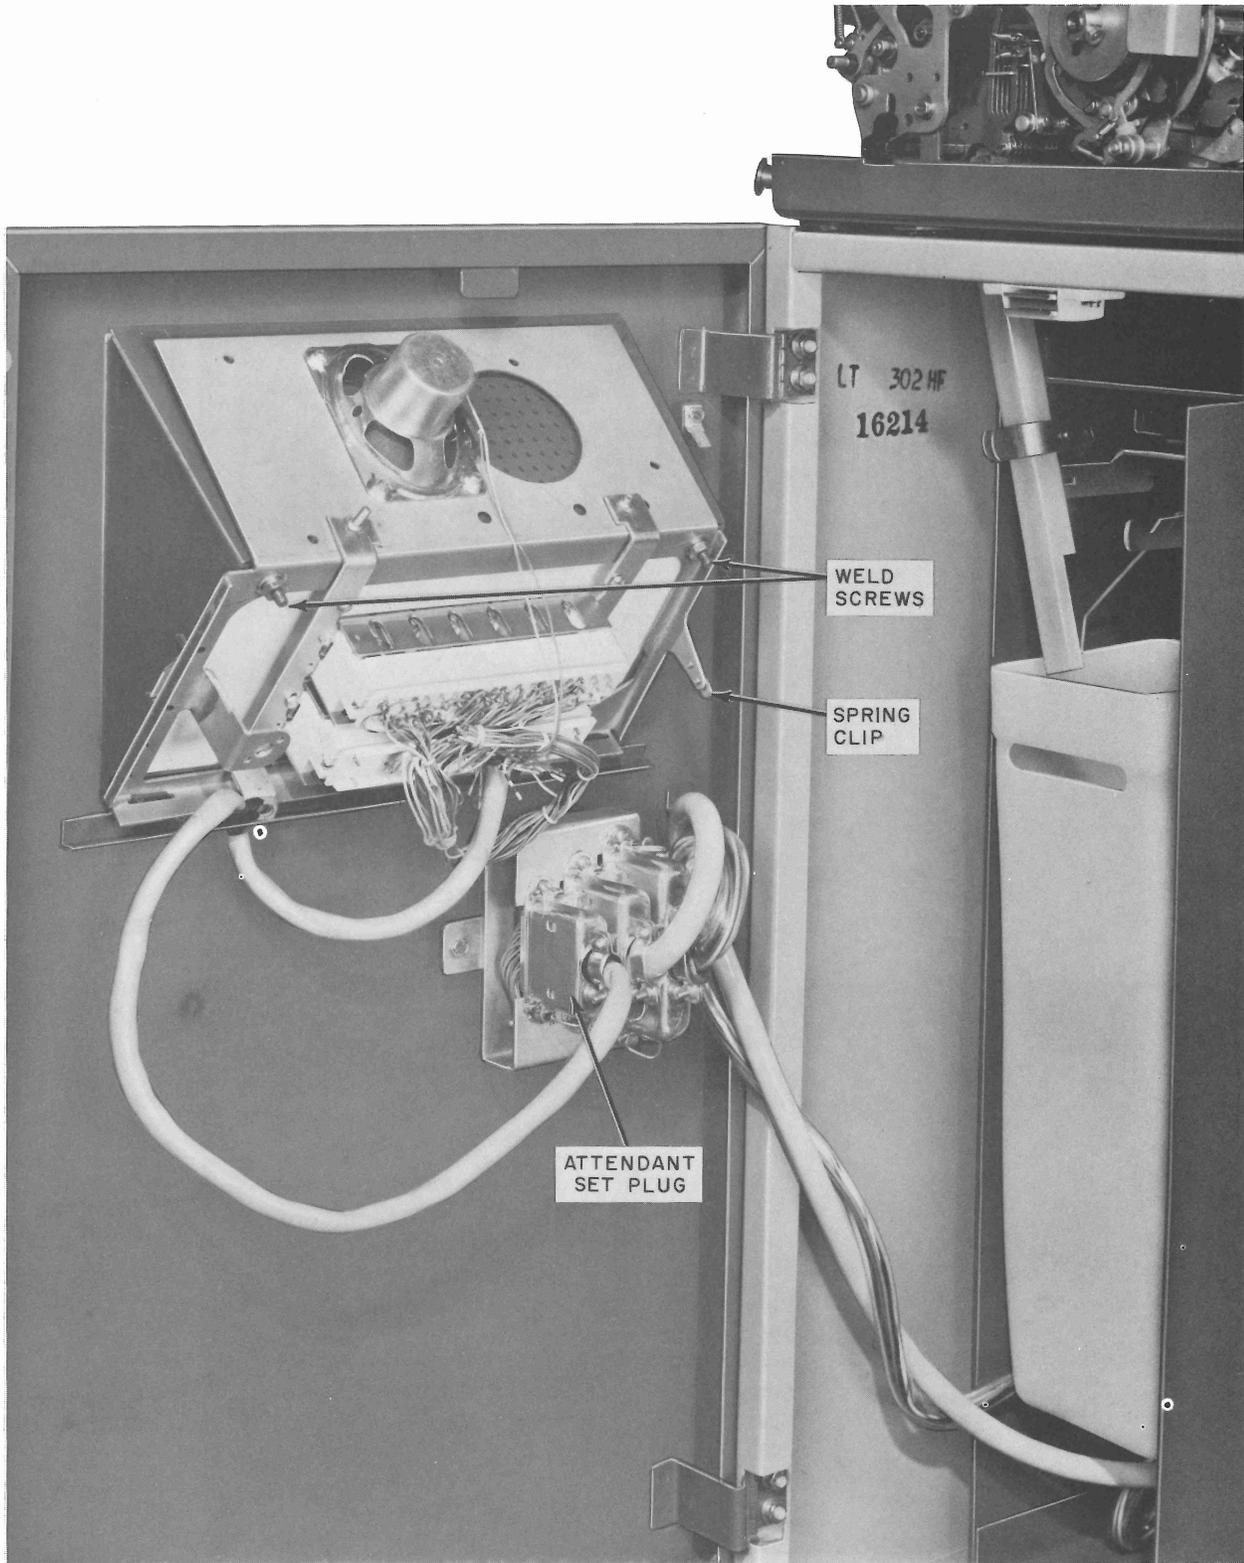

Fig. 19—35 ROTR TTY Data Station—Attendant Set Removal
- (2) Remove the spring clip at the right rear of the attendant set mounting bracket by removing two mounting screws (Fig. 19).
- (3) Lift the left side of the faceplate and disengage the faceplate locking tab.
- (4) Remove the faceplate.
- (5) Disconnect the attendant set plug and connector assembly (Fig. 19).
- (6) Remove two hex nuts and lockwashers from the weld screws on the angle bracket mounting assembly.
- (7) Lower the rear of the attendant set to disengage the locking tabs.
- (8) Remove the attendant set by sliding it to the rear.